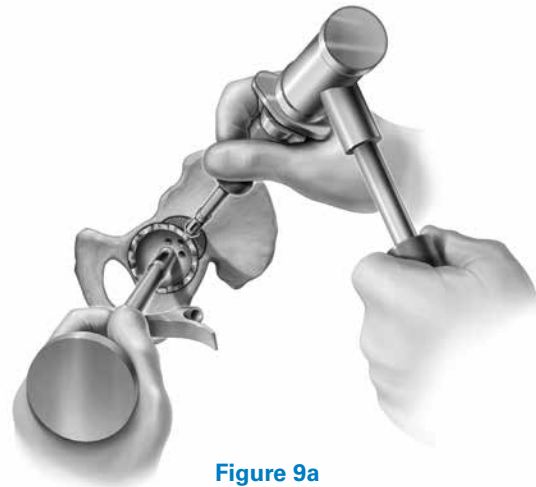

Figure 9a
12. Impact the augment into the prepared defect until positioned in same location as the augment rasp (*Figure 9a*). Remove and clean any excess bone cement.